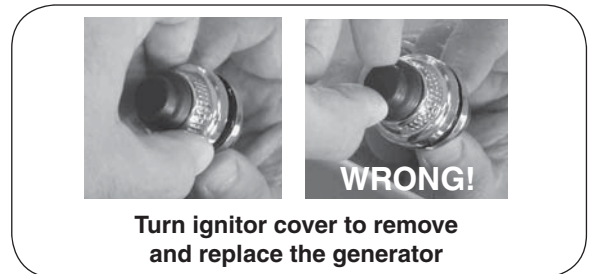

Fig. 1-3 Remove battery cap
5. Remove the battery cap by turning the ignitor cover counter-clockwise (Fig. 1-3).
**Note:** Do not attempt to pull or turn the rubber cap (Fig. 1-3).